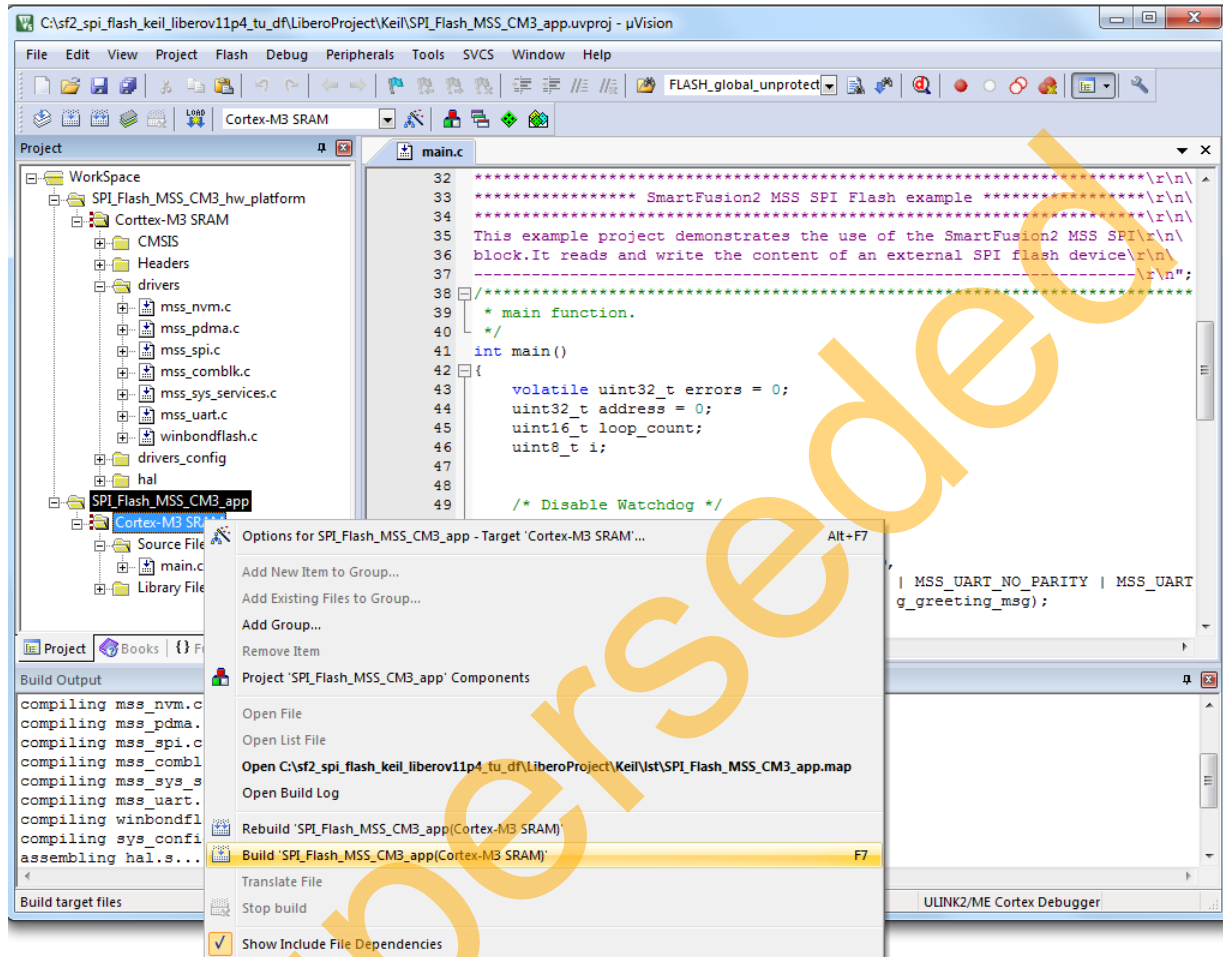

Figure 33 • Build Application Window
16. Right-click **Cortex-M3 SRAM** under **SPI_Flash_MSS_CM3_app** and select **Build SPI_Flash_MSS_CM3_app (Cortex-M3 SRAM)** as shown in Figure 33. It compiles all of the source files and links the object files into an AXF file to debug. Make sure that there are no errors. Correct any syntax errors and rebuild if necessary.